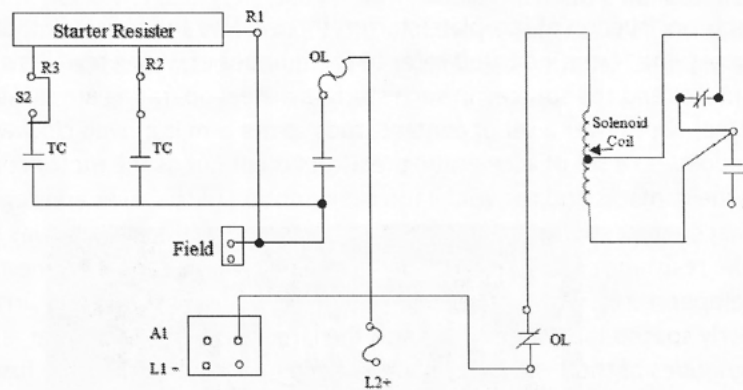

Figure 2
3. Figure 2 is a panel diagram for the starter given to you by your instructor. Now compare the schematic diagram in (figure 1) with the panel diagram of figure 2.
4. On (figure 2) show how you would connect a start and stop pushbutton into this circuit also on (figure 2). Show on (figure 2) how you would connect a compound D.C. motor into this circuit.